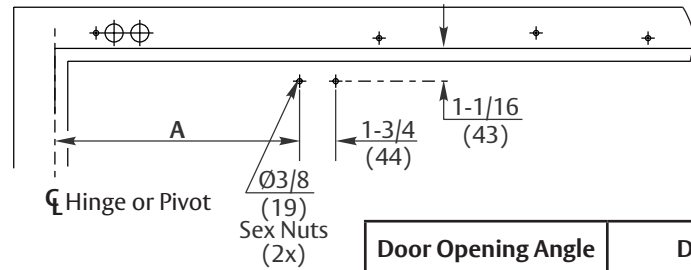

Figure 4 Left Hand Shown
- Using template on page 15, locate and prepare two (2) 3/8" (9.5mm) holes in door for sex bolts. (Figure 4)